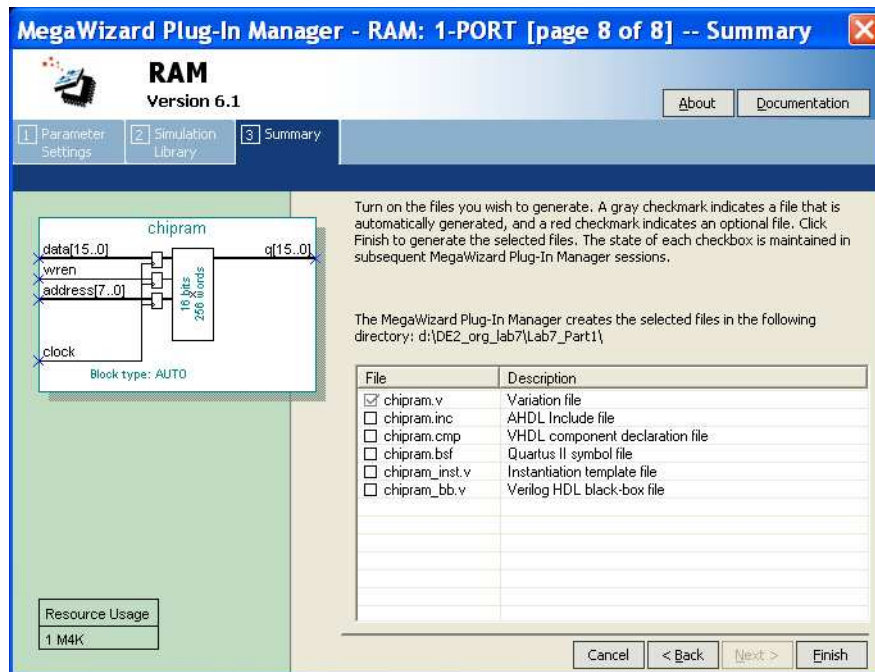

Figure 4. The *chipram* module configuration.
6. Configure a 4-Kbit memory by using the *altsyncram* LPM module. Let this memory be called *chipram*. It has to comprise 256 words, with each word consisting of 16 bits. Choose the LPM memory module of RAM type with a single port. Let its outputs be unregistered. Figure 4 shows the desired memory configured by using the MegaWizard Plug-In Manager. (The tutorial *Using Library Modules in Verilog/VHDL Designs* explains the use of LPMs.)